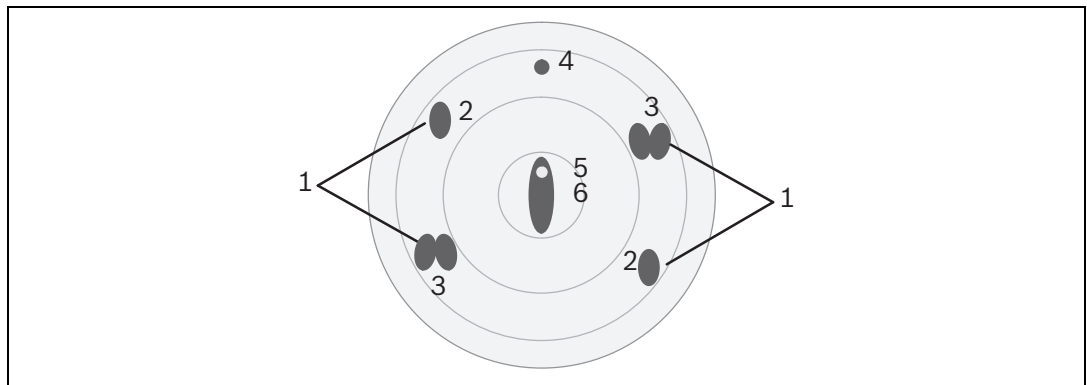
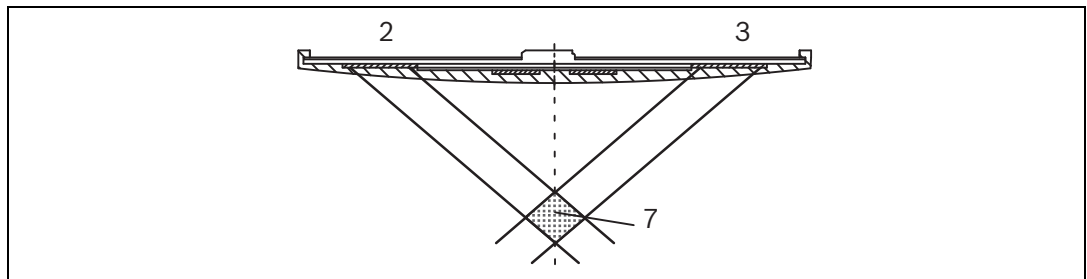

Figure 1.3 Detector front panel with sensors
Figure 1.4 Side view of detector cover
The optical sensor (see *Figure 1.3 (1)*) operates according to the scattered light principle. The LEDs (see *Figure 1.3 (3)*) transmit light at a defined angle into the measuring area (see *Figure 1.4 (7)*). In case of fire, the light is scattered by the smoke particles and strikes the photo diodes (see *Figure 1.3 (2)*), which transform the quantity of light into a proportional electrical signal.
The gas sensor (see *Figure 1.3 (4)*, only FAP-OC 520(-P)) detects mainly the carbon monoxide (CO) that is produced by a fire, but it also detects hydrogen (H) and nitrogen monoxide (NO). The basic measuring principle is CO oxidation on an electrode and the measurable current that arises from this. The sensor signal value is proportional to the concentration of gas. The gas sensor supplies additional information in order to reliably suppress the disturbance variables.
The contamination level of the detector surface is measured and evaluated continuously by the pollution sensor (see *Figure 1.3 (6)*). A three-stage contamination display can be read out at service (see *Section 5 Maintenance and Service, page 26*).